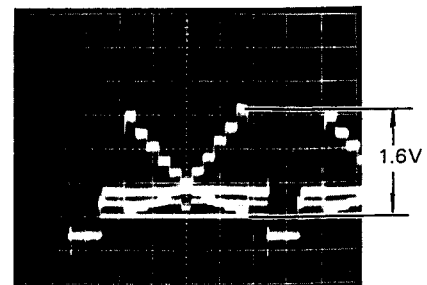

Fig. 5-6-1
- o Connect the oscilloscope to TP1 (G) on the Process VIC1 board and trigger the oscilloscope at H rate (Use TP9, Deflection board).
- o Adjust VR1 (G INPUT GAIN) on the Process VIC1 board for 1.6V. (Fig. 5-6-1)